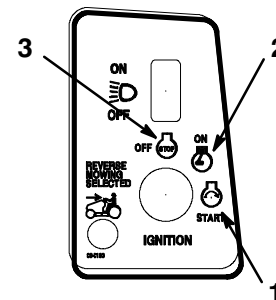

Figure 9
5. Turn the ignition key clockwise and hold it in the “START” position (Fig. 9). When the engine starts, release the key.
2. Turn the ignition key to “OFF” and remove the key (Fig. 9).